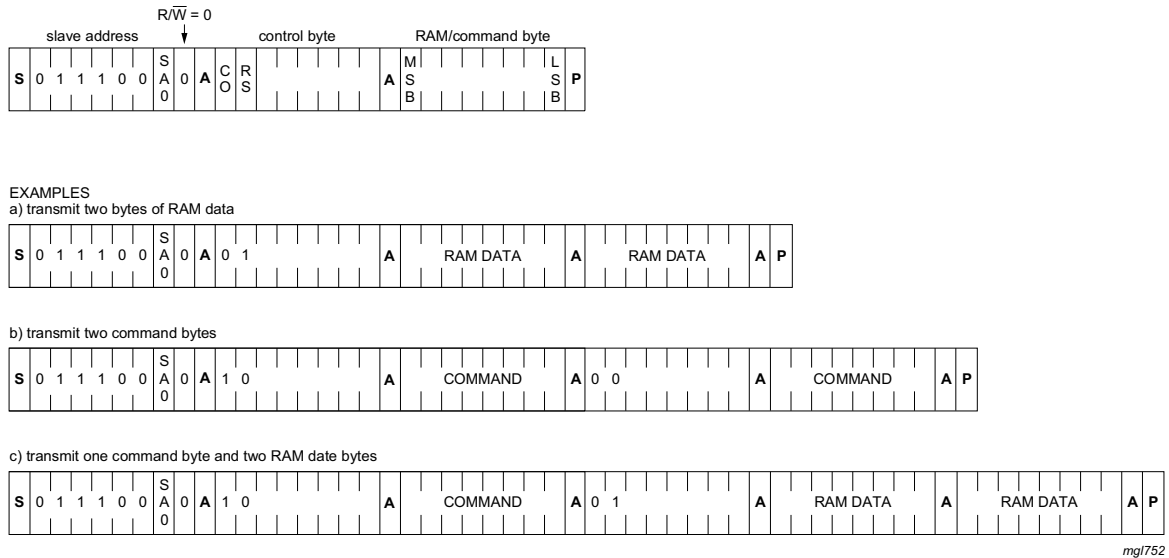

Fig 17. I²C-bus protocol
The I²C-bus protocol is shown in Figure 17. The sequence is initiated with a START condition (S) from the I²C-bus master which is followed by one of the available PCF85134 slave addresses. All PCF85134 with the same SA0 level acknowledge in parallel to the slave address. All PCF85134 with the alternative SA0 level ignore the whole I²C-bus transfer.